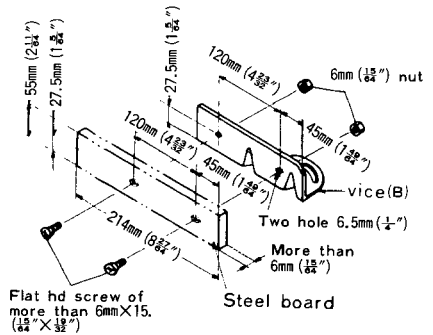

Fig. 8
Loosen the two 10mm($\frac{25}{64}$ ") bolts on the vise-jaw (B), then set the working surface on the vise-jaw at any angles of 0°, 30° or 45° as shown in Fig. 8.